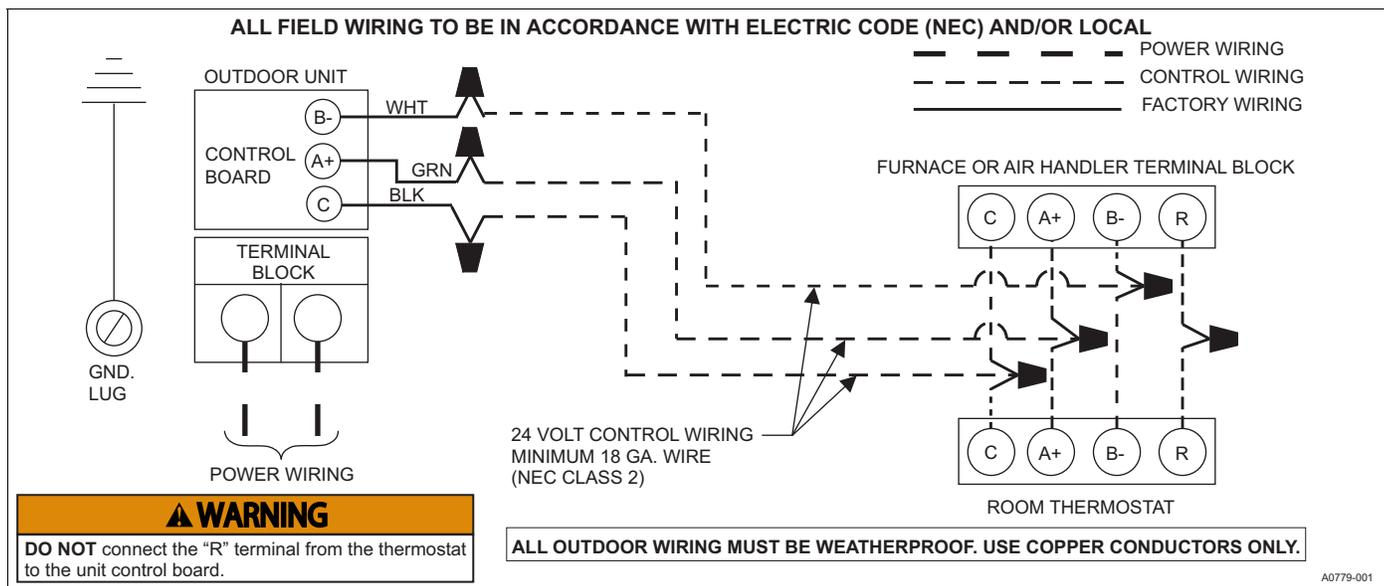

FIGURE 10: Typical Communicating Field Wiring (Variable Capacity outdoor unit)
2. Locate factory installed low voltage wire harness at bottom of control box. Connect low voltage wiring together using wire connectors. See wiring diagram show in Figure 10.